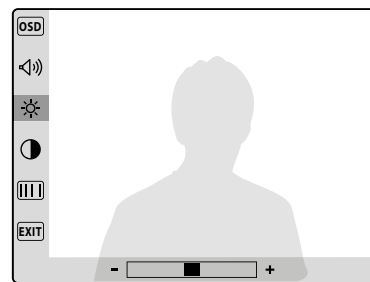

Fig. 3A
- The picture brightness (8 levels **Fig.3A**);